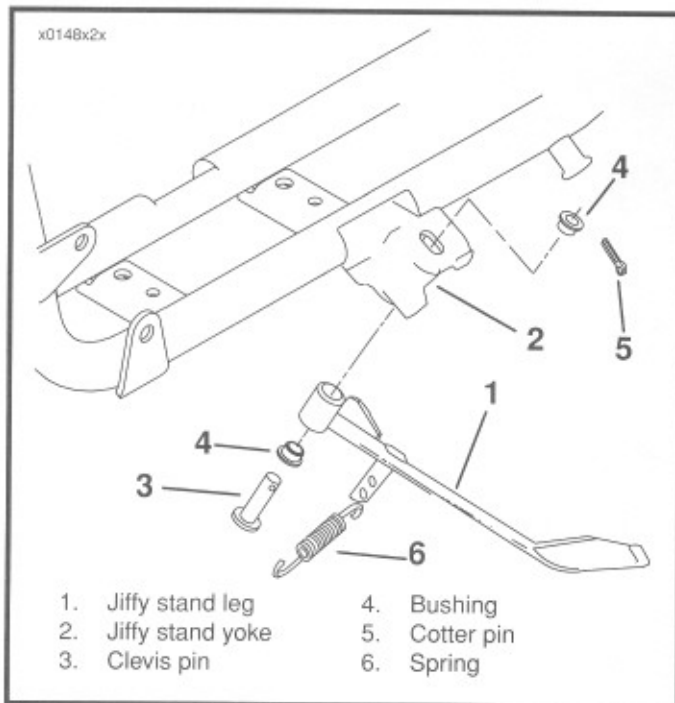

Figure 2-95. Jiffy Stand
3. Place jiffy stand leg (1) in retracted position. Remove and discard cotter pin (5).
4. See Figure 2-95. While firmly holding jiffy stand leg (1) in fully retracted position, withdraw clevis pin (3) until it disengages with the upper pivot hole of jiffy stand yoke (2).
5. Detach spring (6) from anchor pin using pliers. Unhook other end of spring from jiffy stand leg (1).
6. Remove clevis pin (3) from lower pivot hole of jiffy stand yoke (2). Remove jiffy stand leg (1). Remove upper and lower bushings (4).
CLEANING AND LUBRICATION (Figure 2-95)
2. See Figure 2-95. Hook either end of spring (6) into spring mounting hole on jiffy stand leg (1). Install loose end of spring over anchor pin.
3. While holding end of spring (6) in groove of anchor pin and holding jiffy stand leg (1) in its retracted position, position pivot end of jiffy stand leg within yoke (2) on motorcycle frame. Insert clevis pin (3) through lower pivot hole of yoke and halfway into pivot hole of jiffy stand leg.